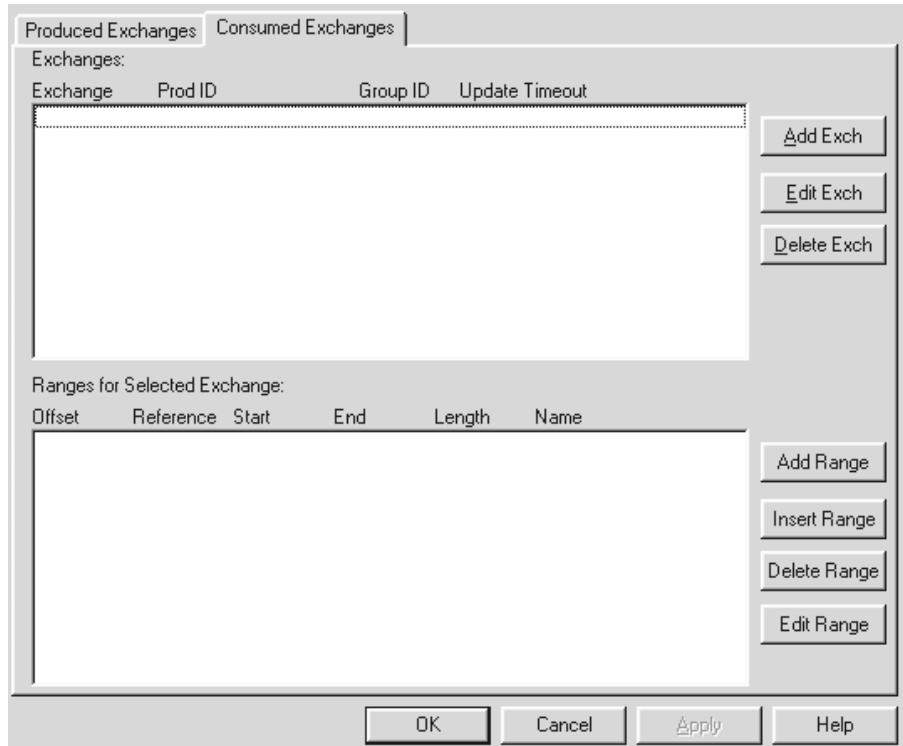

Figure 3.32 – Consumed Exchanges Tab Screen
Step 5. Now that the Produced Exchange parameters have been configured, it is now necessary to configure the Consumed Exchange parameters. (Again, as a reminder, refer to Figure 25 to recall the desired configuration parameters for this example.) Click the **Consumed Exchanges** tab located on the screen in Figure 3.32.